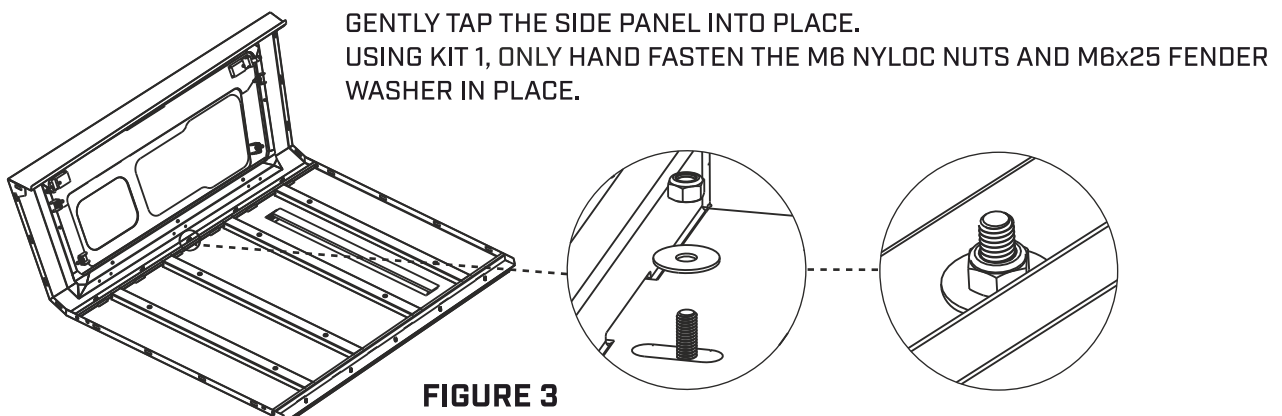

FIGURE 3
4. TO ALLOW GREATER FLEXIBILITY FOR PANEL FITMENT, ONLY HAND TIGHTEN HARDWARE AT THIS STAGE. (SEE FIGURE 3)